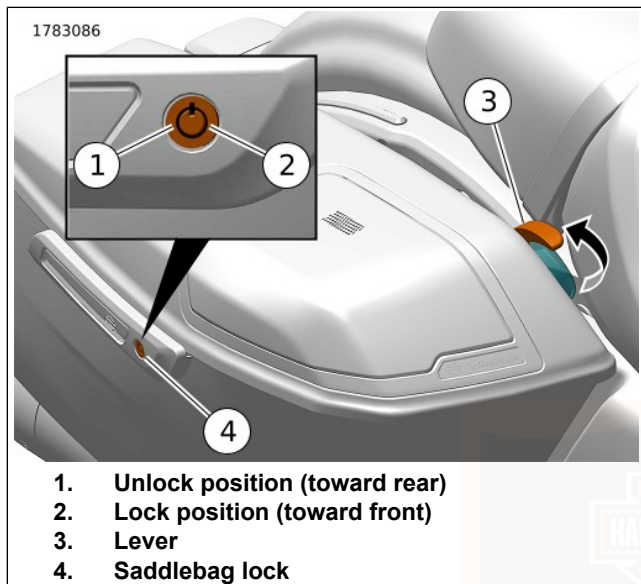

Figure 68. Saddlebag
**Key:** See Figure 68. Insert key. Rotate key one-quarter turn toward front of vehicle. Return key to center to remove key.
**Key:** See Figure 68. Insert key. Rotate key one-quarter turn toward rear of vehicle. Return key to center to remove key.
1. See Figure 68. Unlock saddlebag.
2. Lift the saddlebag lever (3).
1. See Figure 68. Close the saddlebag lid.
2. Push the lever (3) down to engage the latches. Check that the lid is secure.
1. See Figure 68. Open the saddlebag.